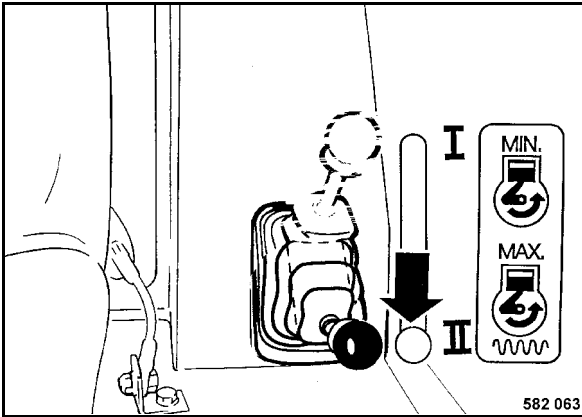

Fig. 43
- Set the throttle lever (Fig. 43) to position "II", full speed.